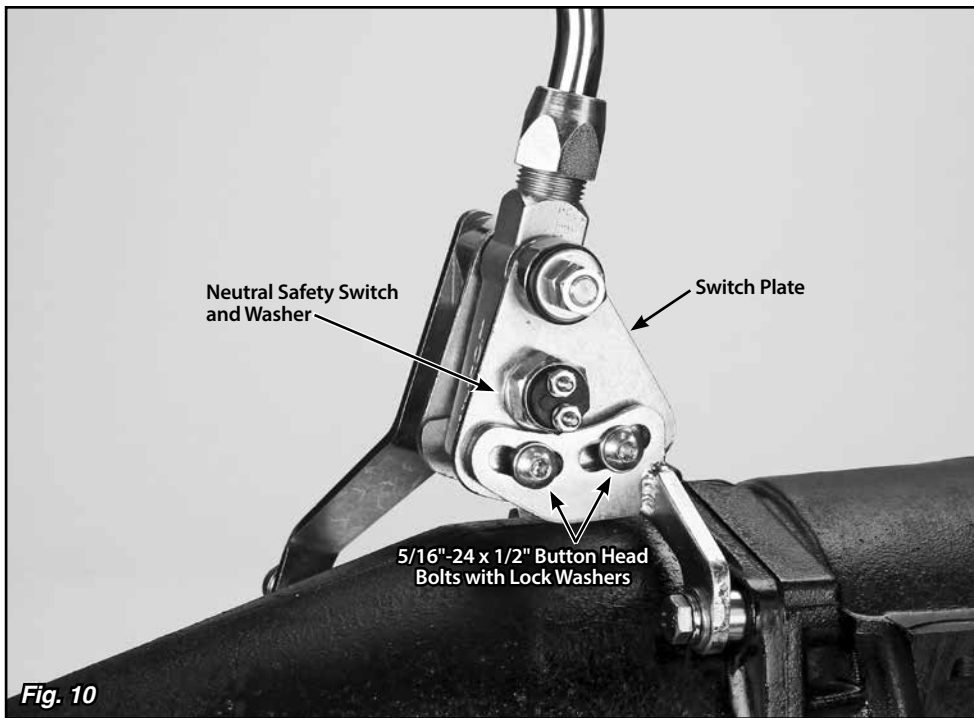

Fig. 10
Step 14: Remove the neutral safety switch and washer (**Fig. 10**) from the passenger side of the Shifter using a 7/8" wrench or socket.
Step 15: Loosen, but do not remove, the two 5/16"-24 x 1/2" button head bolts that connect the passenger side banana bracket to the switch plate (the bolts are in curved, slotted holes). **Fig. 10**